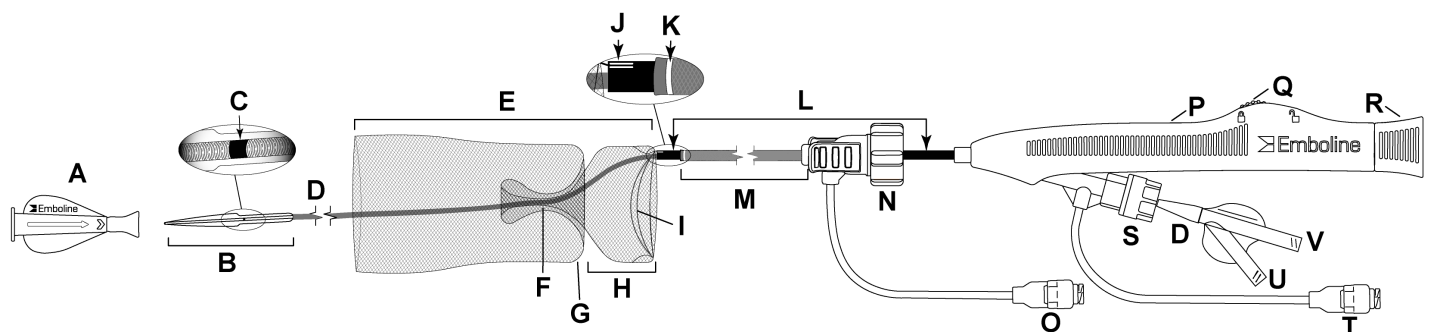

Figure 1.
The Emboliner® Embolic Protection System ("Emboliner") is a sterile, short term use medical device. The Emboliner is a percutaneously delivered embolic protection filter, designed to capture and remove debris dislodged during transcatheter aortic valve replacement (TAVR). The Emboliner is comprised of the filter, its catheter, an integrated delivery sheath, and a balloon catheter. The system is also supplied with a filter loading tool (Figure 1). The Emboliner is delivered over a guidewire via femoral artery access. The filter is deployed via the integrated delivery sheath across the aortic arch to capture debris that would otherwise enter the cerebral branch vessels and descending aorta during transcatheter aortic valve replacement (TAVR). The Emboliner catheter and delivery sheath contain radiopaque markers to facilitate visualization during use. The filter is composed of a double-layer, heparin-coated, cylindrical nitinol mesh. The Emboliner catheter contains an integrated 6 Fr lumen to allow the introduction of procedural devices (e.g., angiography pigtail catheter, guidewire, etc.). At the completion of the procedure, the filter and debris are retrieved into the delivery sheath and removed from the patient.
Position of marker band	See item C in Figure 1
- 11.2.10. Orient the filter loading tool so that the arrow points towards the filter, as shown on Figure 1.
- 11.2.21. Pull the balloon catheter until the distal filter edge is aligned with the balloon loading marker as shown on Figure 1.